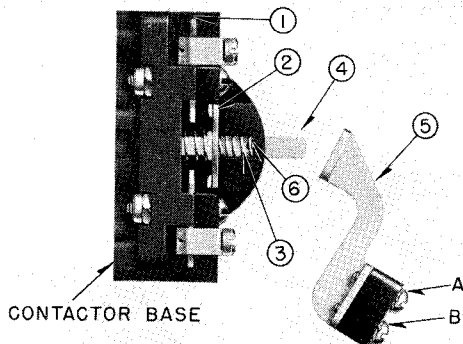
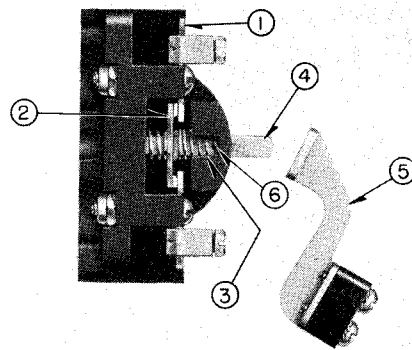

FIG. 2. Normally Open Interlock
FIG. 3. Normally Closed Interlock
This reversing unit comes equipped with one normally open interlock on each contactor. By removing the interlock, shown in Fig. 2, and reassembling parts 1, 2 and 3 per Fig. 3, the interlock is changed from normally open to normally closed contact. The following procedure is recommended:
1. Swing arm (5) out of way by removing screw A and loosening screw B. (See Fig. 2).
2. To detach upper spring (3) from plunger (4) compress inturned end of spring against contact bar (2) and rotate spring until it disengages hole (6).
3. Operate reassembled interlock by hand to check freedom of moving parts before reassembling arm (5) into original position.